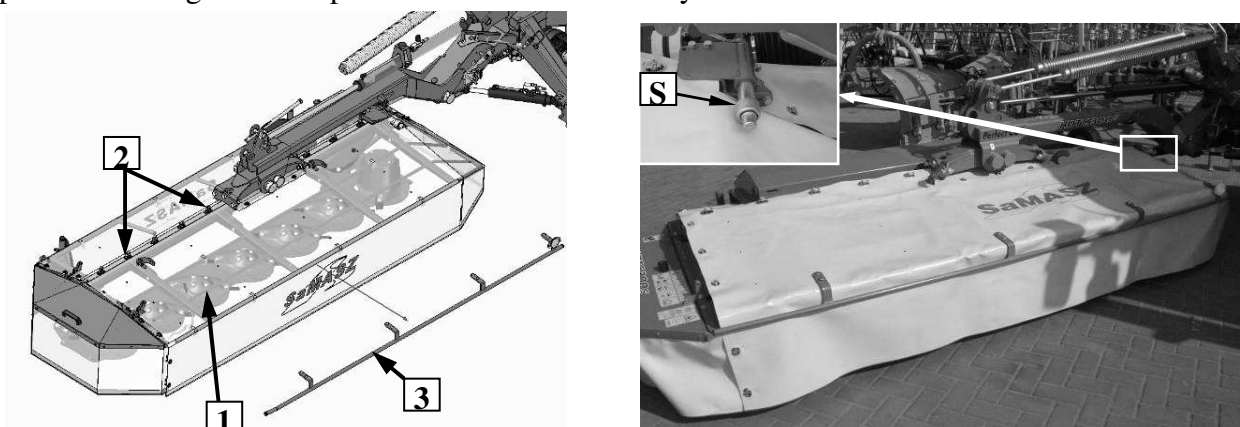

Fig. 7. Mounting safety curtain guard on the mower
SaMASZ mowers feature standard safety curtains (1) for self-mounting. In order to mount the guard properly, put it on a mower and secure with catches (2) and front guard (3), **Fig. 7**. Examine condition of guards and its mounting on a regular basis. Fix immediately if damaged and replace if missing. Do not operate mower without safety curtains.